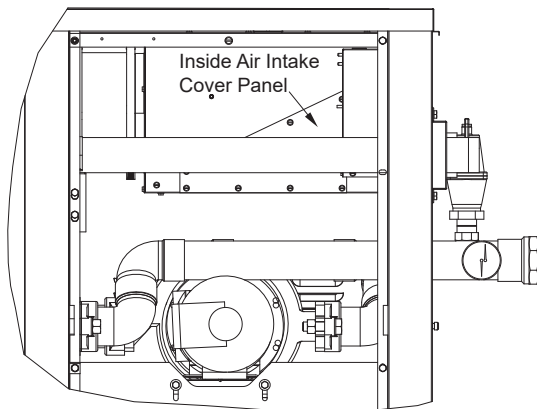

Figure 8. Install the Inside Air Intake Cover Panel
- From the right-rear side access area, install the inside air intake cover panel using the nine hex-head screws provided. See **Figure 8**.